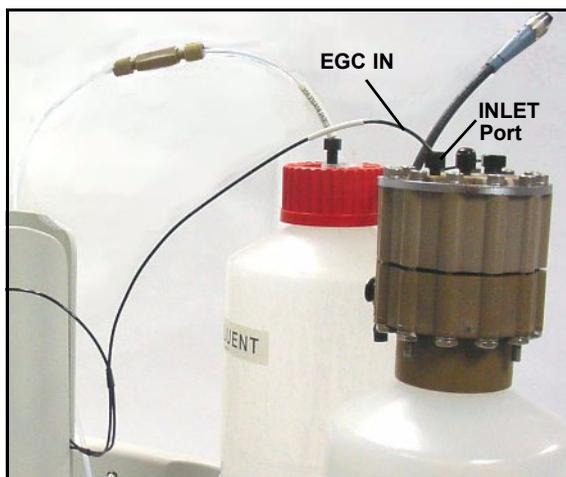

Figure B-37. Connecting the EGC Inlet Port
4. Pull the coiled black **EGC IN** and **EGC OUT** lines out slightly from the cartridge holder. Disconnect the **EGC IN** line from the union that connects it to the **EGC OUT** line. Connect **EGC IN** to the EGC **INLET** port (see Figure B-37).